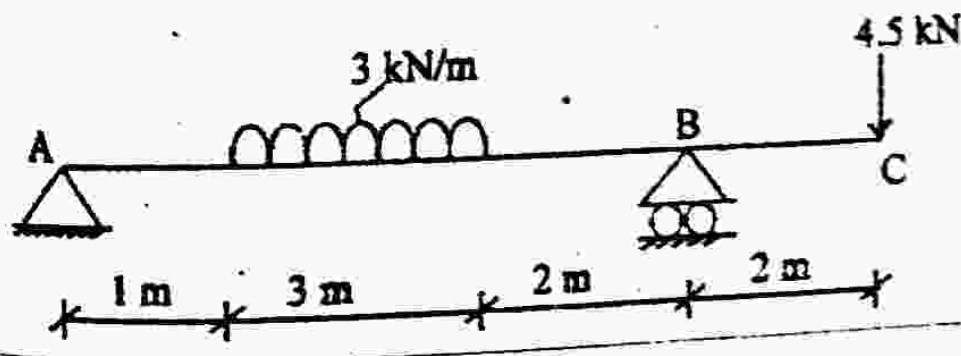

Fig. Q. 10
10. An overhanging beam ABC is loaded as shown in Fig. Q. 10. Determine the deflection at point C and the maximum deflection between A and B. Take $E = 200 \times 10^6 \text{ kN/m}^2$ and $I = 24 \times 10^6 \text{ m}^4$. (13)